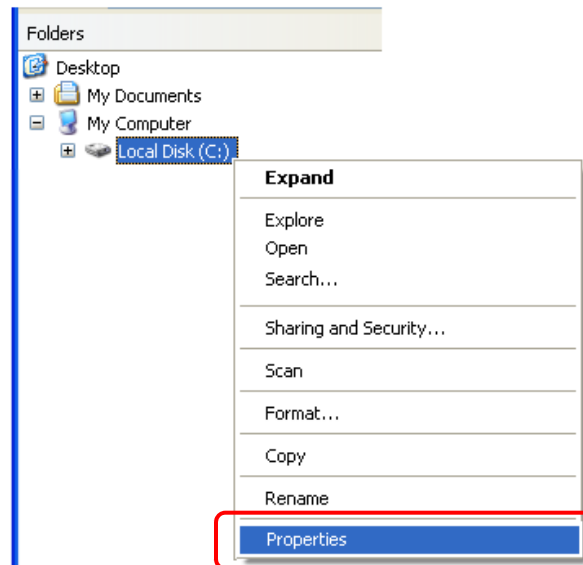

Figure II-3. Shortcut Menu for C: Drive in Windows Explorer
- b. Right-click on the C: drive folder and select **Properties** from the shortcut menu (Figure II-3).